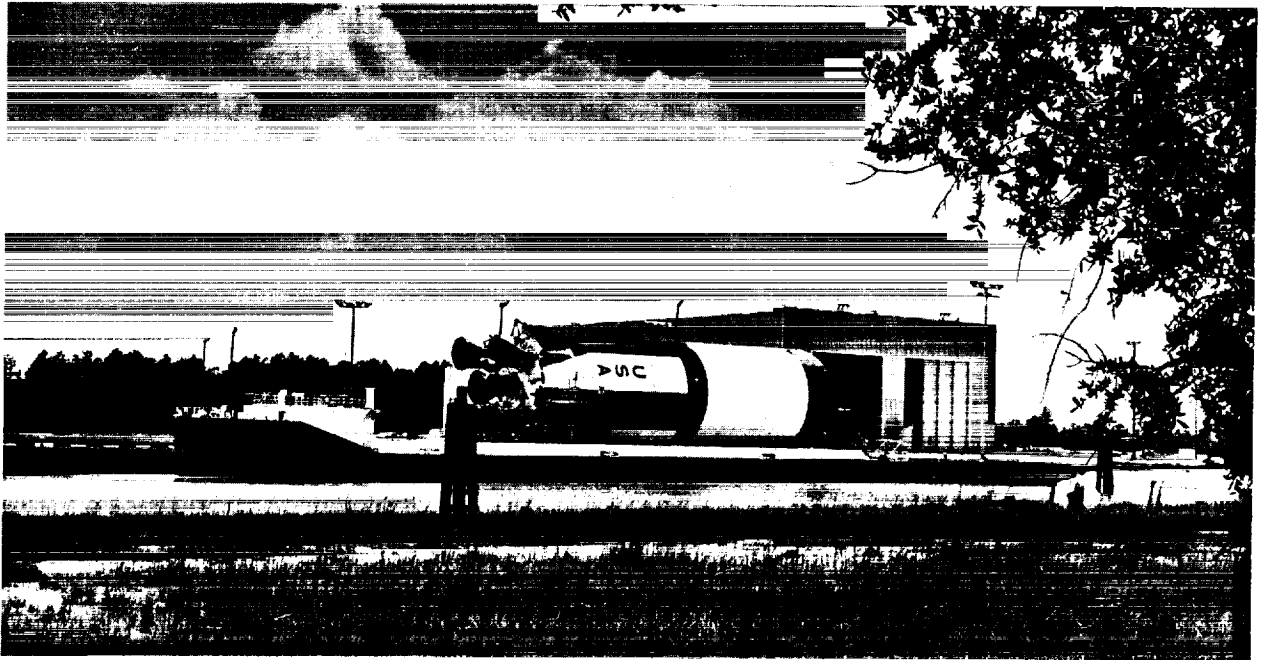

Figure 9-3. Transport of S-IC Stage From Barge To Booster Storage Building
- 9-9. TRANSPORT OF S-IC STAGE FROM BARGE TO BOOSTER STORAGE BUILDING. Remove the S-IC stage from the barge and transfer into the Booster Storage Building per figure 9-3 as follows: